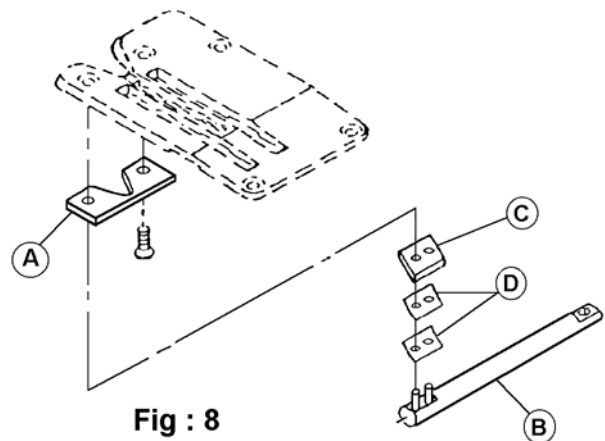

Fig : 8
5. Remove the throat plate (D) by removing screws (C).
6. (see Fig:8) The moving blade (C) is supported by 2 spring blades (D) and positioned on the 2 pins on shaft (B).
7. When replacing or turning over the knife, it is recommended to replace the spring blades (D).
8. Unscrew the stationary knife (A) from the throat plate.
11. Do not forget to remove the spacer between lever (A) and screw (F).